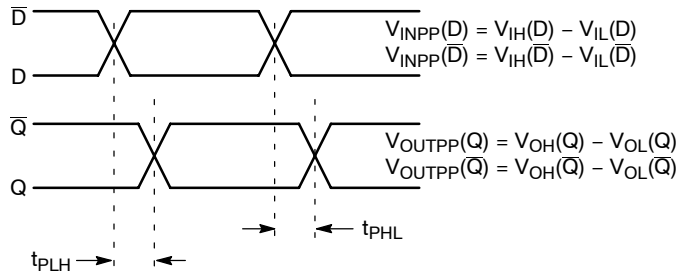

Figure 9. AC Reference Measurement
18. See Figure 9 $t_{skew} = |t_{PLH} - t_{PHL}|$ for a nominal 50% differential clock input waveform. Skew is measured between outputs under identical transitions and conditions @ 1 GHz.